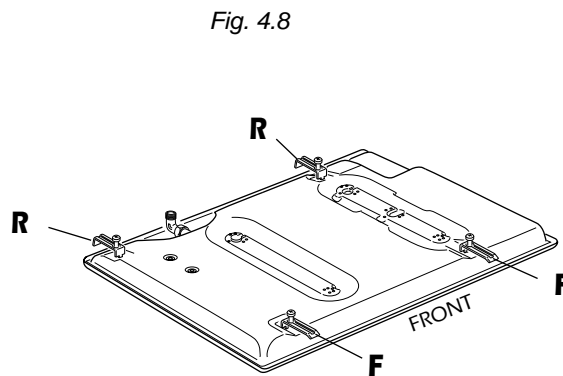

Fig. 4.8
(figs. 4.8, 4.9, 4.10)
- ✓ Make sure that the brackets are fastened as shown in figure 4.8.